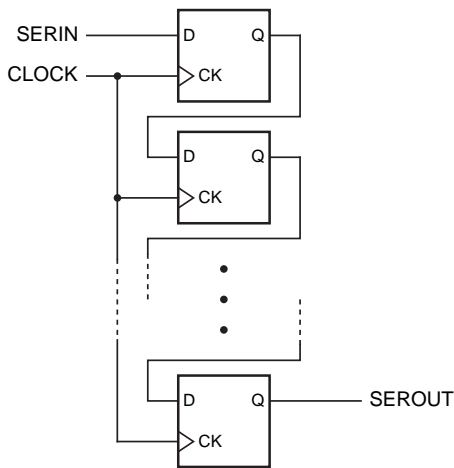

Figure 1: Structure of a serial-in, serial-out shift register.
- Fig. 1 shows structure of a **serial-in, serial-out shift register**